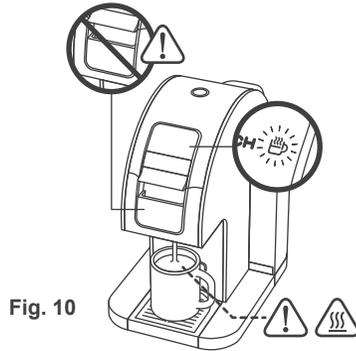

Fig. 10
5. The upper right brewing indicating light will stay ON during warm up, and the light will BLINK during the brewing cycle. (Fig. 10)
**CAUTION:** The brewer will heat the water EXTREMELY HOT during the brewing process. To avoid risk of injury, do not pull on the Latch or open the Cover while brewing. Contents will be EXTREMELY HOT! (Fig. 10)